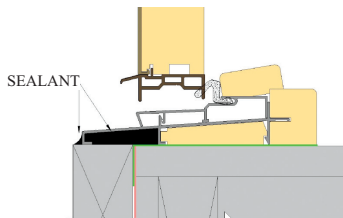

FIG. 24: OUTSWING SILL
C) Apply silicone to seal each end of the sill cavity that protrudes from the rough opening. (Fig. 24 & 25)